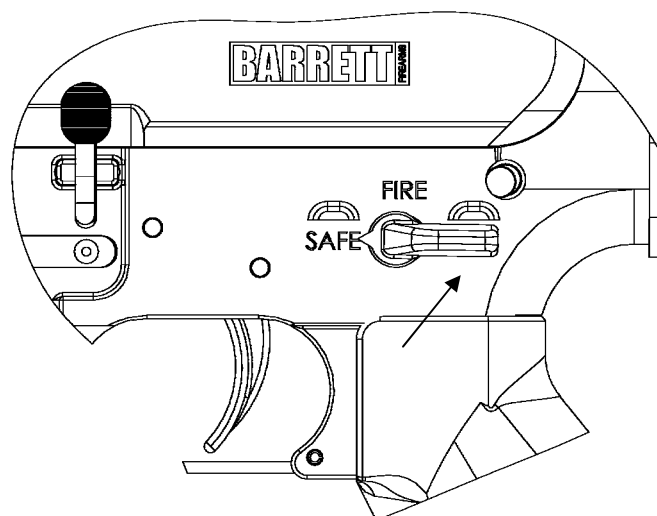

Figure 13.
5. Place the selector switch on SAFE. Press the upper portion of the bolt catch to allow the bolt assembly to close. (Figure 13). Repeat steps 3-5 to ensure rifle is unloaded and cleared.